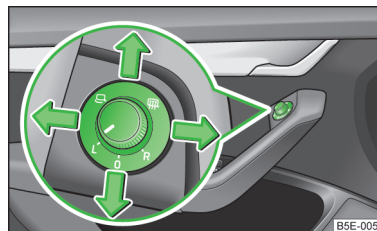

Fig. 45
- Set the rotary knob into the position » Fig. 45.
- Set the rotary dial into position or, on right-hand drive vehicles, into position » Fig. 45. The movement of the mirror surface is identical to the movement of the rotary knob.
➤ Set the rotary knob into the position  » Fig. 45.
On vehicles fitted with the memory function for the driver seat » page 66, the surface of the mirror tilts down slightly when the reverse gear is engaged and the rotary knob is in the position  or in position  on vehicles with right-hand drive » Fig. 45. This provides an aid in seeing the kerb of the pavement when parking the car.